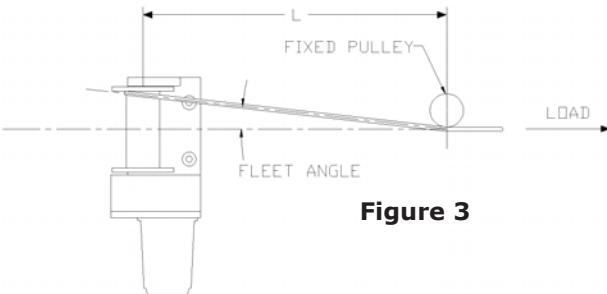

Figure 3
5. To allow proper spooling of the cable, the fleet angle should be no more than 1.5° (Figure 3). The minimum distance between the winch and a load or pulley should be 11 ft (4 m), assuming that a drum divider is not being used.